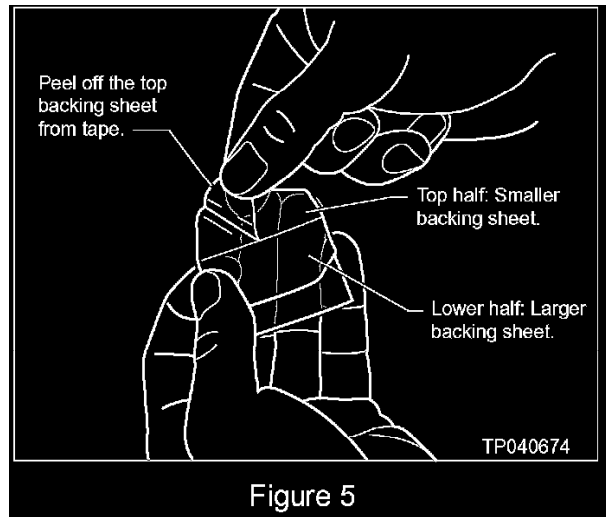

Figure 5
7. Using the mark as a reference point, and place the screw section of a large hose clamp 1/4 clockwise turn (90~ clockwise looking towards front of vehicle) past the mark and properly secure to the driveshaft (see Figure 5).
5. Peel off the top (smaller) backing sheet from one of the fluorine resin tapes (see Figure 5).